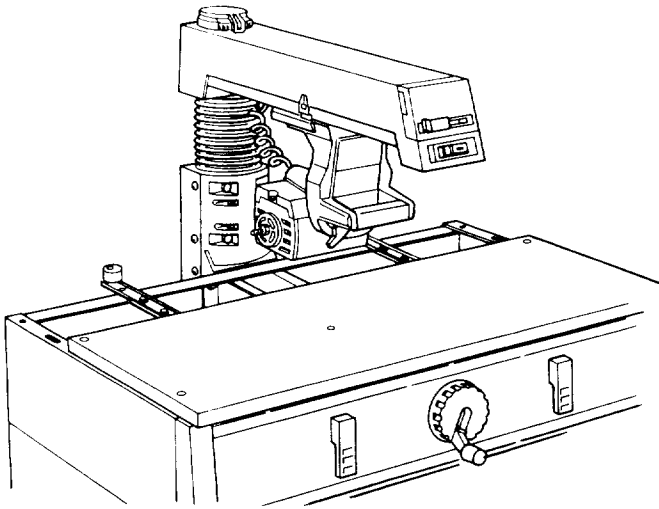

Fig. 59
24. Unlock the *bevel lock* and return the motor to its original position with the *arbor shaft* parallel to the *table*. (Figure 59)